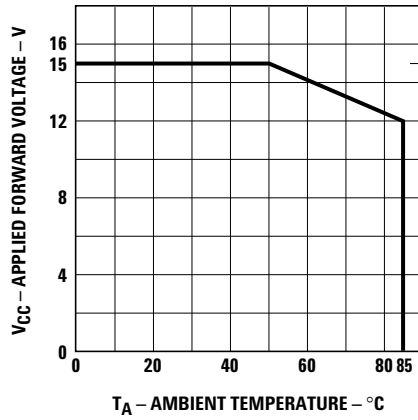

Figure 4. Maximum allowed applied forward voltage vs. ambient temperature $R\theta_{JA} = 175^{\circ}\text{C}/\text{W}$. 12 volt devices.
- Derate from $T_A = 50^\circ\text{C}$ at 0.086 V/°C, see Figure 4.